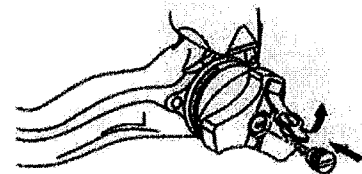

Figure 2
Step 2. Locate and open hitch assembly lock cylinder protective cover, insert key and rotate key counter-clockwise. (See Figure 2)
Step 3. Pull out and rotate handwheel clockwise until the red stripe on the handwheel aligns with white dot on the hitch assembly. The centering device is now in its pretensioned state and is ready for insertion to the vehicle receiver. (See Figure 2)